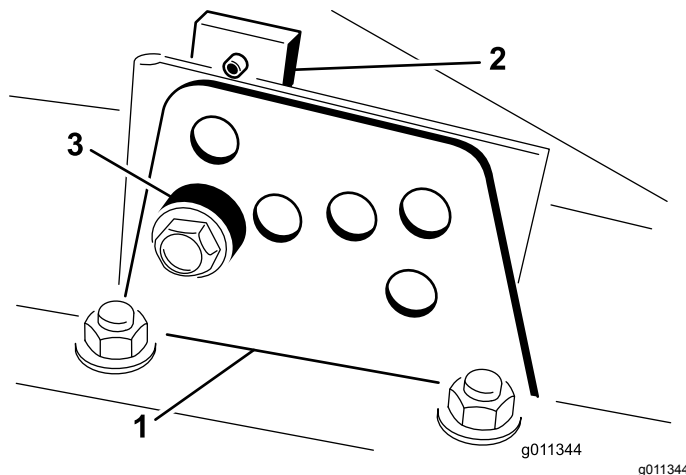

Figure 21
2. Loosen the bolt securing each height-of-cut bracket to the height-of-cut plate (front and each side) as shown in Figure 21.
4. While supporting the chamber, remove the spacer (Figure 21).